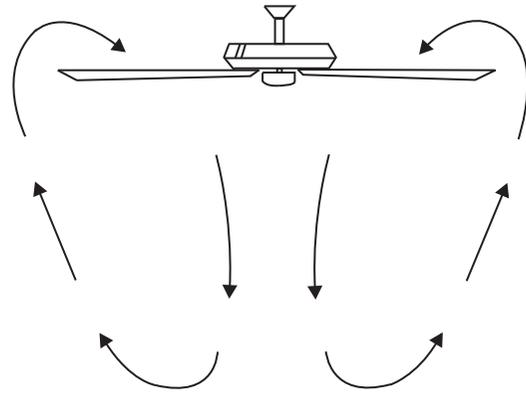

Fig. 26
**Warm Weather Operation:** Forward (counter clockwise) A downward airflow creates a cooling effect as shown in Fig. 26. This allows you to set your air conditioner on a warmer setting without affecting your general comfort.